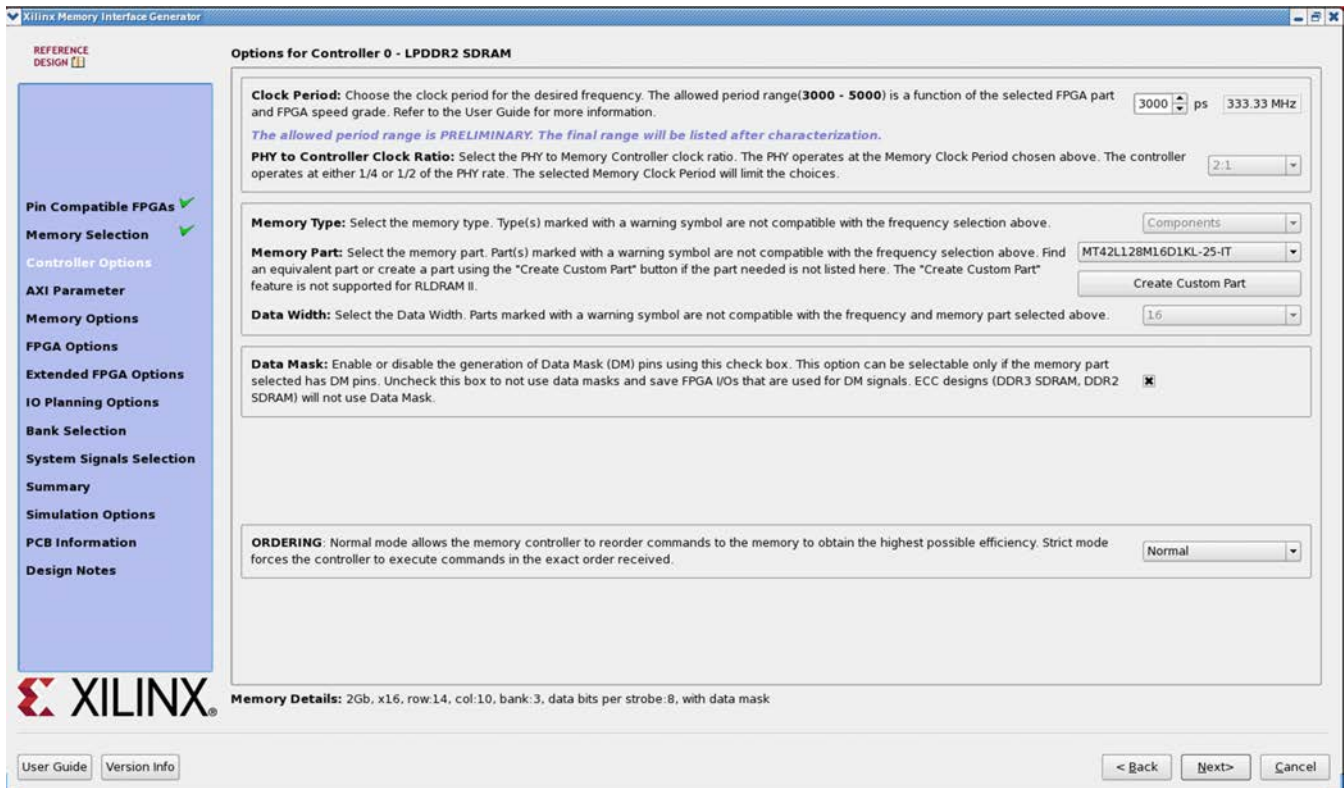

Figure 4-17: Controller Options Page
This page shows the various controller options that can be selected (Figure 4-17).
- **Memory Details** – The bottom of the Controller Options page (Figure 4-17, page 491) displays the details for the selected memory configuration (Figure 4-18).